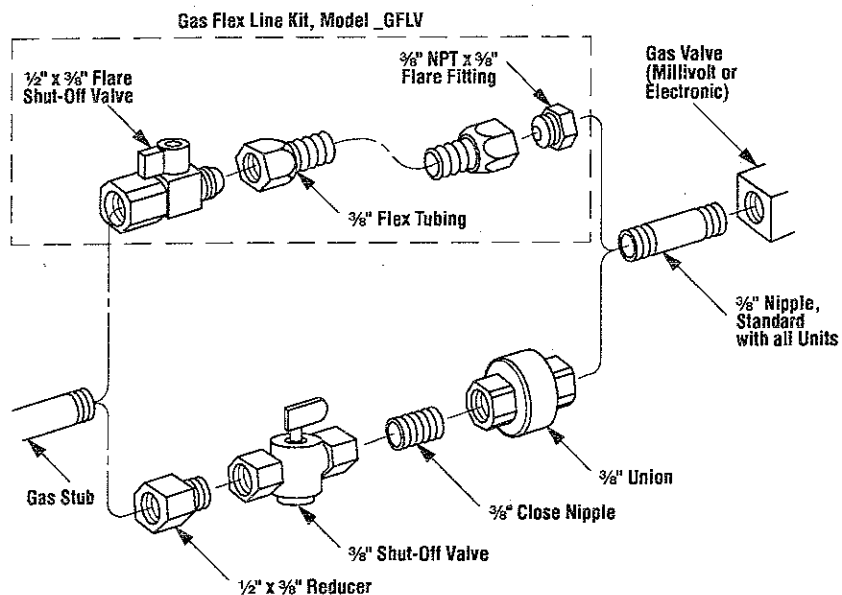

Figure 19
Step 9. Connecting Gas Line – Make gas line connections. All codes require a shut-off valve mounted in the supply line. *Figure 19* illustrates two methods for connecting the gas supply. The flex-line method is acceptable in the U.S.; however, Canadian requirements vary depending on locality. Installation must be in compliance with local codes.